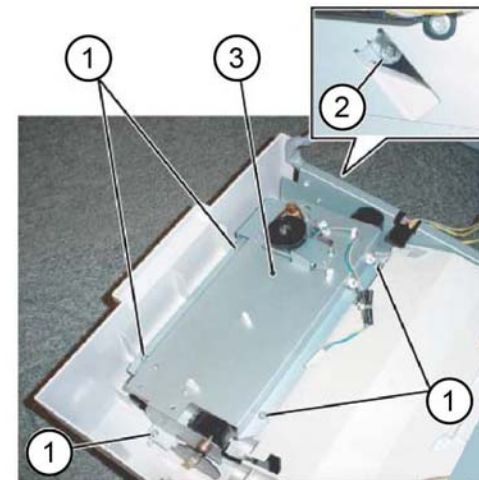

Figure 5 Stacker assembly removal
9. Remove the stacker assembly, Figure 5:
- a. Remove five self-tapping screws (1).
- b. Remove the screw (2).
- c. Remove the stacker assembly (3).